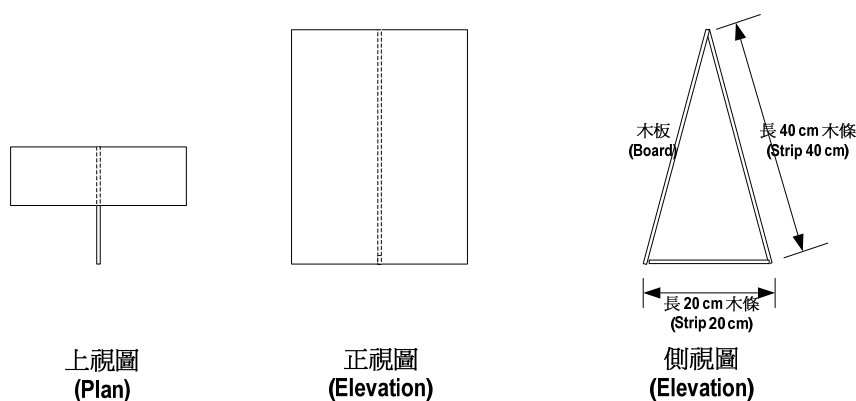

Figure 14. Description poster and board.
10.2 Description board: each team is required to complete a description board and paste the poster onto the board within the model construction time. The board is made of the thin wooden board and wooden sticks that are provided (refer to Figure 14).